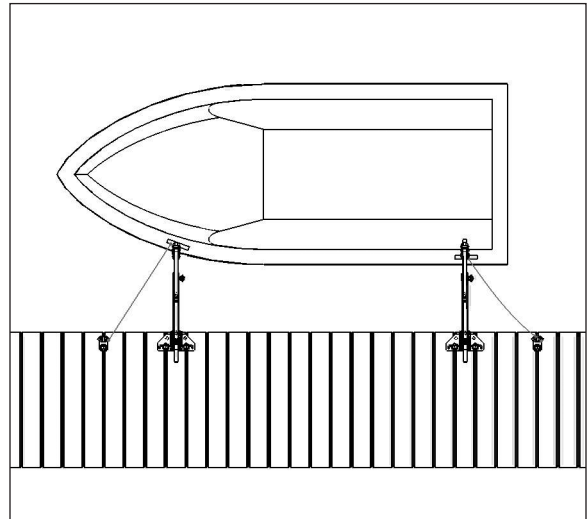

Figure 10
**Figure 10** depicts the top view of a watercraft with the Pier Tender supplemental mooring system attached to both the front and rear cleats of the boat. The **primary mooring system** in this example is the front and rear mooring lines (**Figure 10**) which create a 45° angle away from the Pier Tender and are securely tied to both the watercraft and the dock. This is one example of a primary system which will enhance the performance of the Pier Tender by helping to further stabilize and secure the boat or watercraft from a dock or pier.